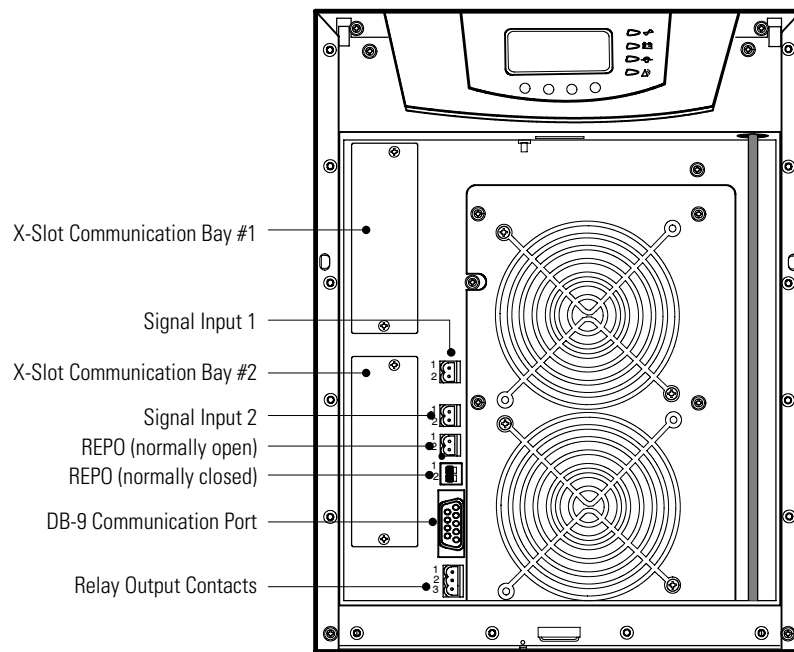
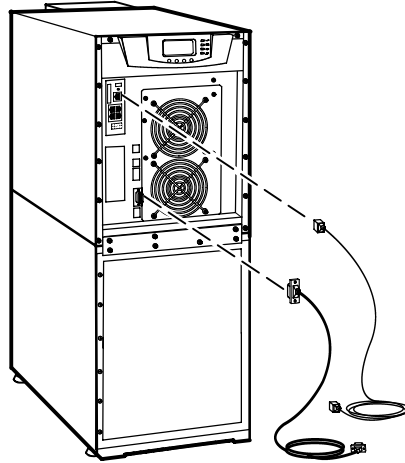
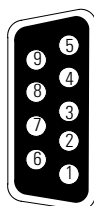

Figure 34. Communication Options and Control Terminals
Figure 36. Installing Communication Cables
Figure 39. Communication Port
Figure 34 shows the location of the communication options and control terminals on the UPS.
2. Install the appropriate X-Slot card and/or necessary cable(s) into the top cabinet (see Figure 34 and Figure 36).
The cable pins are identified in Figure 39 and the pin functions are described in Table 3. See Figure 34 on page 49 for the communication port location.
See Figure 34 on page 49 for the location of the two X-Slot communication bays.